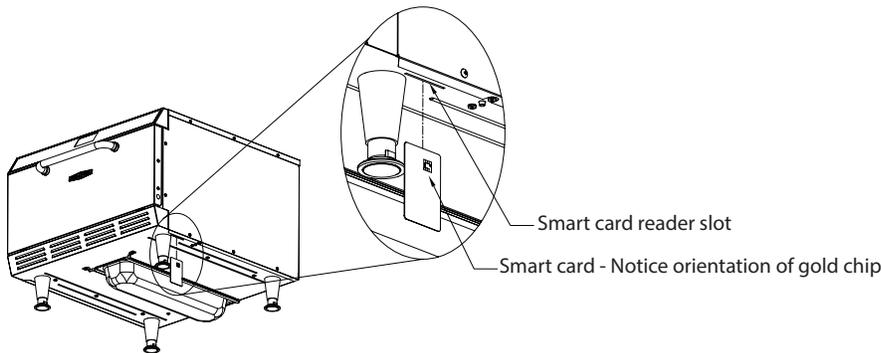

Figure 5: Inserting Smart Card - HhB
1. Insert the gray smart card marked "1 of 3" (Figures 5 and 6).